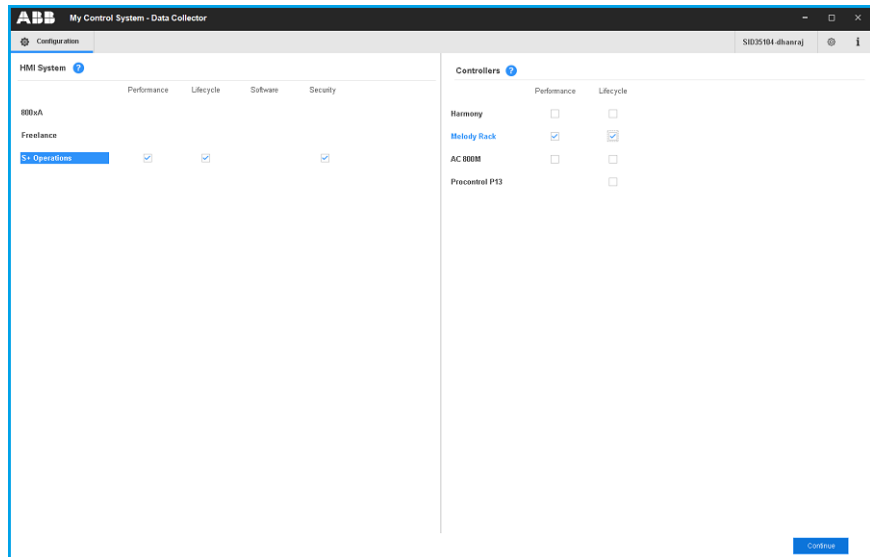

Figure 135. S+ Operations with Melody
4. Configuration screen appears. Click S+ Operations On the left pane and select the check box for the required data category (Performance, Life Cycle). Similarly, Select Harmony on the right pane and select the check box for the required data category (Performance, Life Cycle) and/or Security. Security option shall select only when it is needed as it will take significantly longer time for data collection. Click Continue. Figure 135